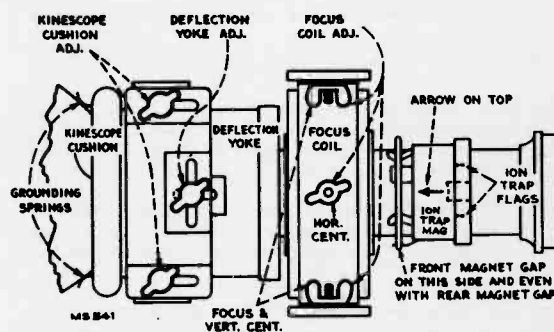

Figure 2—Yoke and Focus Coil Adjustments
**ION TRAP MAGNET ADJUSTMENT**—The ion trap rear magnet poles should be approximately over the ion trap flags as shown in Figure 2. Starting from this position adjust the magnet by moving it forwards or backwards at the same time rotating it slightly around the neck of the kinescope for the brightest raster on the screen. Reduce the brightness control setting until the raster is slightly above average brilliance. Adjust the focus control (R184 on the chassis rear apron) until the line structure of the raster is clearly visible. Readjust the ion trap magnet for maximum raster brilliance. The final touches on this adjustment should be made with the brightness control at the maximum position with which good line focus can be maintained.